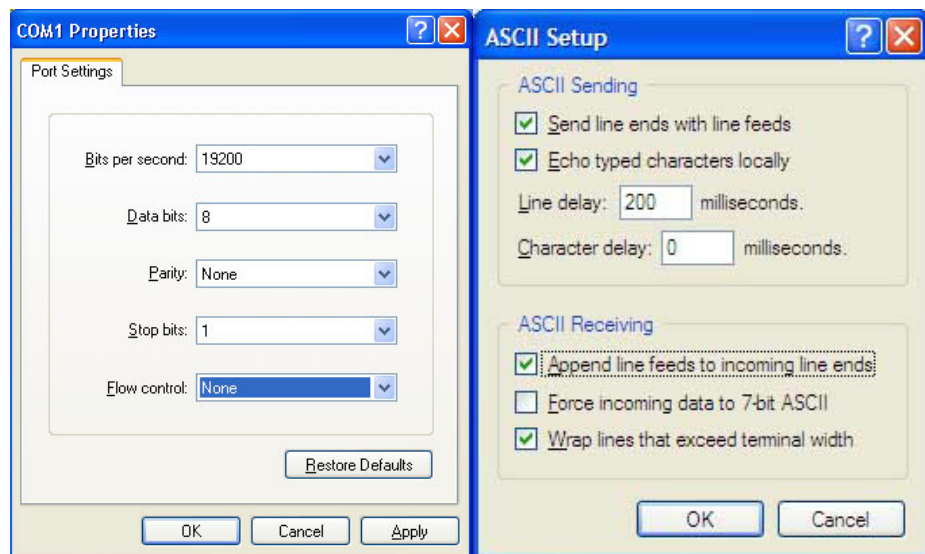

Figure 7-1 COM Port and ASCII Properties
5. Configure the COM Port settings as follows. Any available COM Port may be used. Set Flow Control to None for most converters. See Figure 7-1.